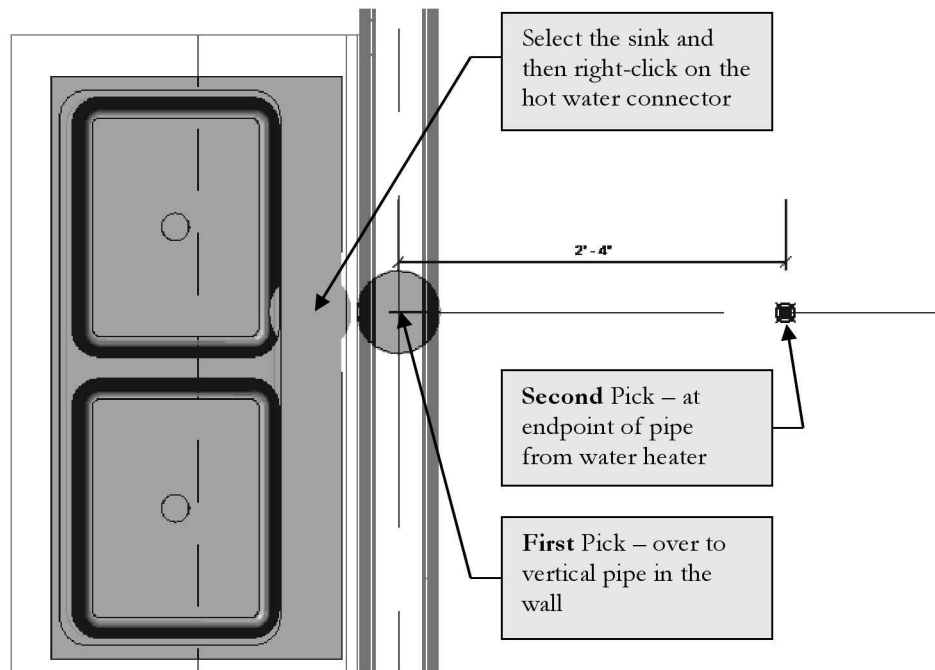

FIGURE 13-5.9 Sink piping
20. Select the sink and then right-click on the hot water connector (Figure 13-5.9).